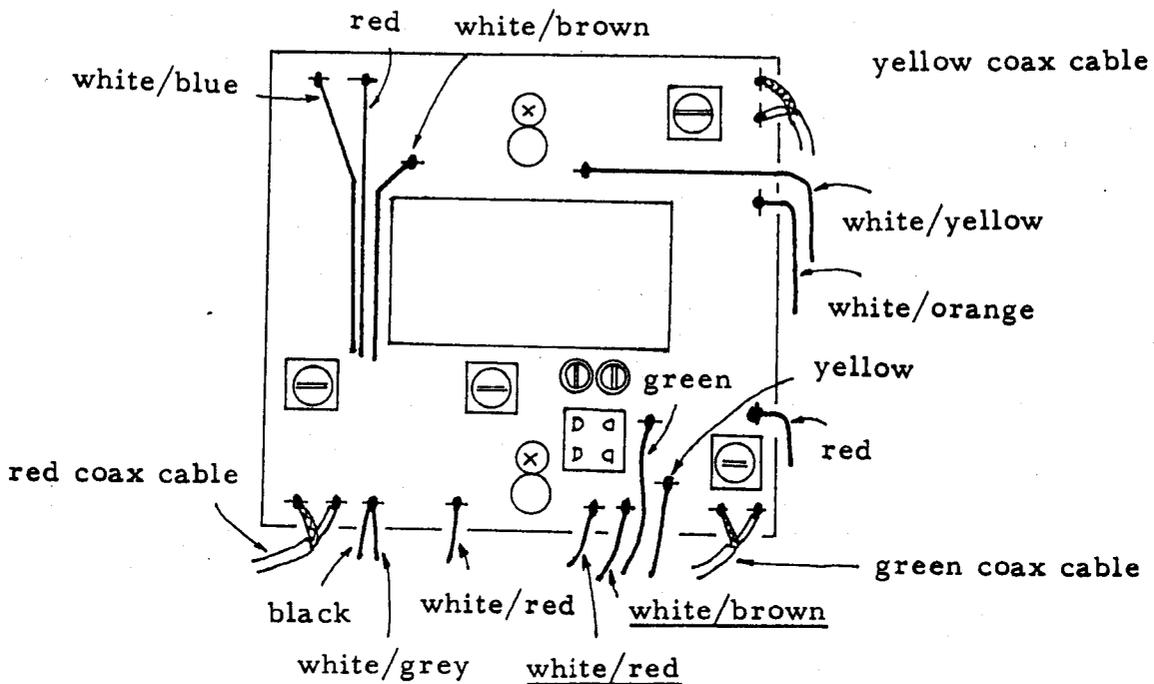

Fig. 6-10
4. Wire as illustrated in Fig.6-10. Underlined wires are from VFO select switch and the others are from the wire harness.